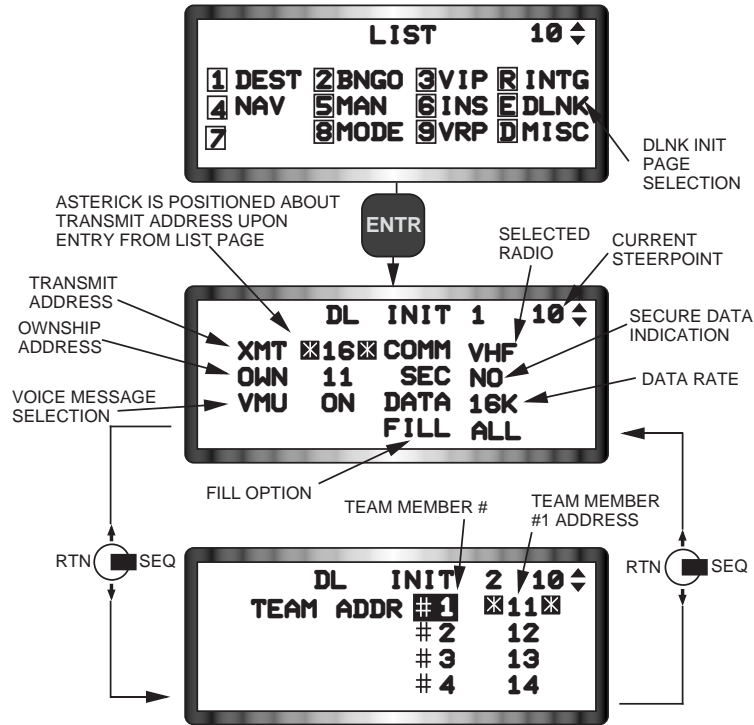

Figure 1-59 Data Link Initialization Pages
UFC Manual Loading. The pilot may manually initialize the data link system using the UFC. The DED pages used to input data link initialization parameters are the Data Link Initialization pages, DL INIT 1 and DL INIT 2. These pages are accessed by choosing the LIST page and then pressing the ENTR (E) button to access DL INIT 1. The pilot then toggles between DL INIT 1 and DL INIT 2 by selecting the SEQ position on the DCS (Figure 1-59). The DL INIT 1 page is used to show basic modem settings and control the A-G intraflight setup. The DL INIT 2 page controls the A-A intraflight setup. Initialization data is manually entered by positioning the asterisks around the applicable field with the DCS switch (DCS-Up or DCS